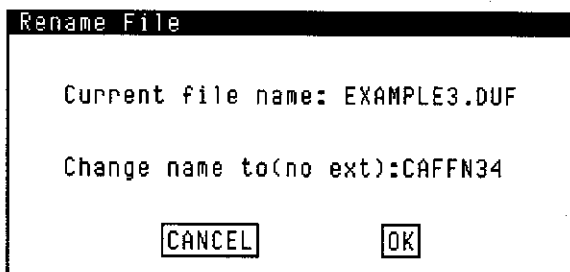

Figure 8-2. Rename File Window
4. Click on <Rename>. The Rename File window, Figure 8-2, is displayed.